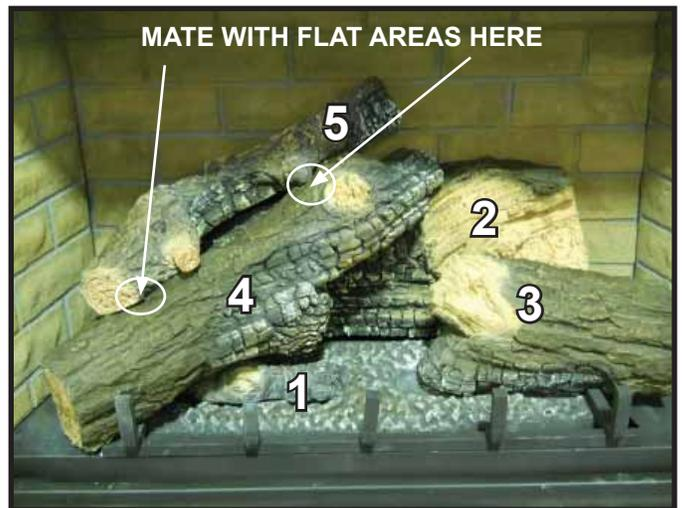

Figure 5.
**LOG #5 (SRV2117-705)** Place log #5 on log #2. Log #5 will mate with the flat areas located on the top side of Log #4. See Figure 5.